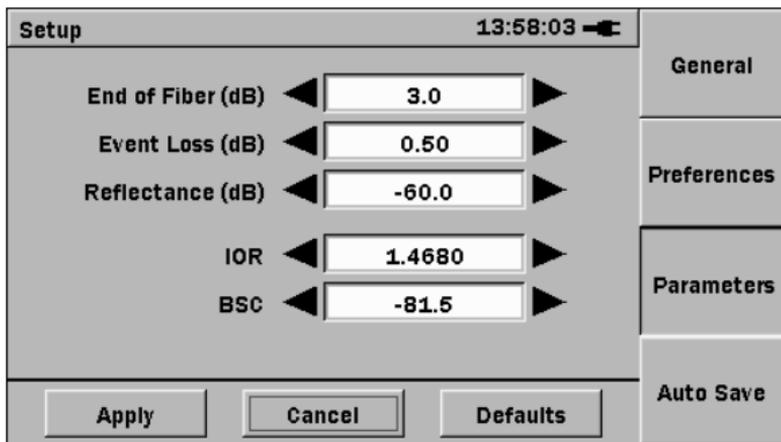

Figure 4-5: Parameters Setup screen
2. Press **Parameters (F3)**, the Parameters Setup screen appears (see Figure 4-5 on page 4-8).